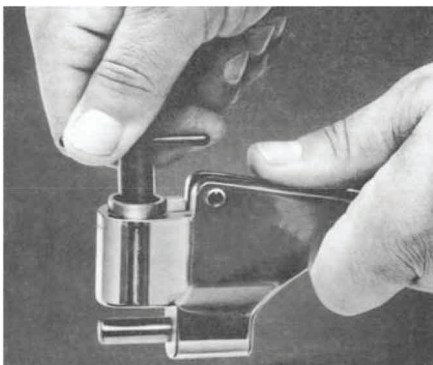

Figure 4
- Loosen the adjusting nut (see also figure 4) and take out the indenter.